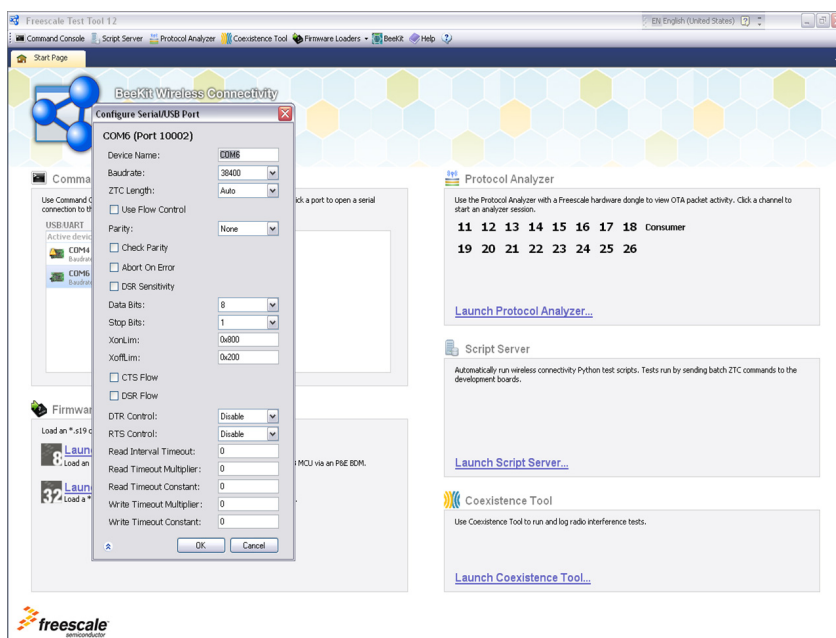

Figure 5-3. List of Devices Window
- Set the baud rate at 38400 and check that all the settings are set as shown in Figure 5-3.